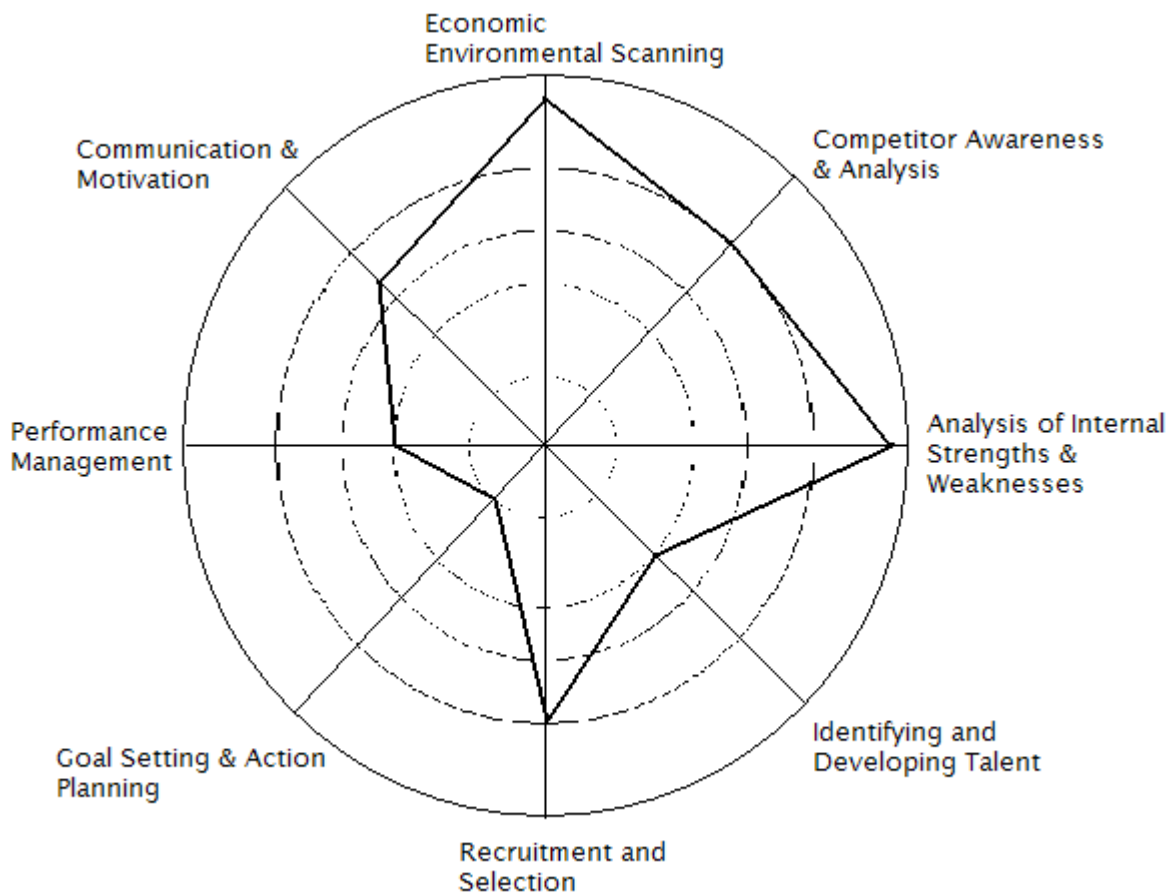

Figure 16: Radar charting 'Organizational Performance'
2. Select and define the rating categories (see example in Figure 16 below). It is important to be clear on how performance is being measured (i.e. against SMART objectives are the ideal). Brainstorming can be useful here.
4. Draw an appropriate wheel with a spoke for each category (see illustration in Figure 16). Label each spoke and add the scale.